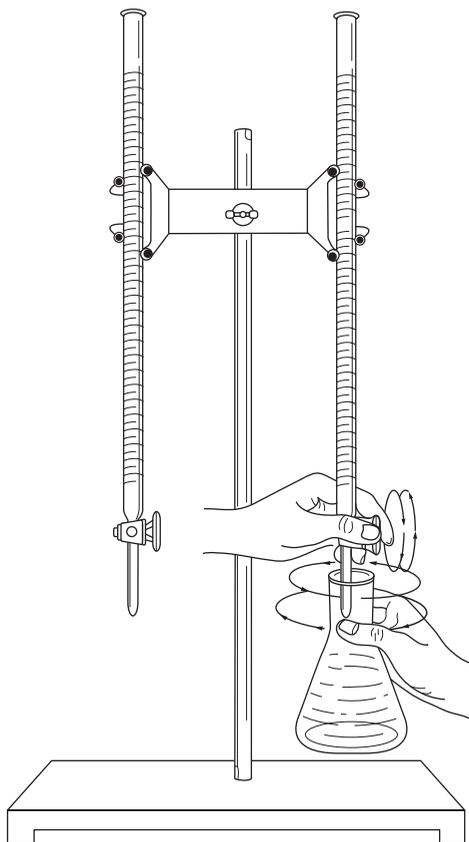

Figure 20.1
C. If you have a magnetic stirring apparatus available, carefully add a stirring bar to the flask containing the completely dissolved acid. Position the flask such that the tip of the buret is inside the neck of the flask. Start stirring at a moderate speed. If you do not have such apparatus available, you will have to swirl the flask manually throughout the titration (see Figure 20.1).